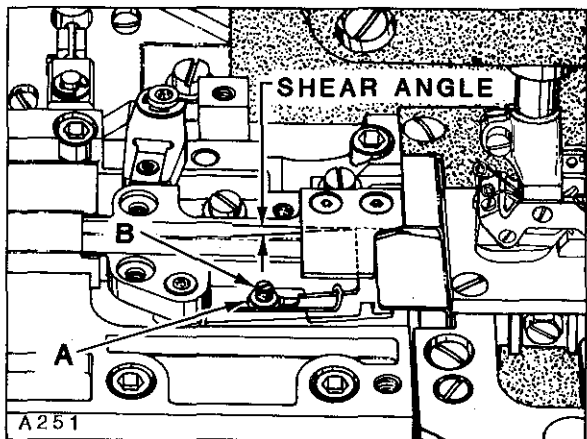

Fig.29
Adjustment of shear angle can be made by loosening nut (A, Fig. 29) and turning screw (B) clockwise (a small amount at a time) while manually operating knife lever (C), continuously checking with a piece of thread to see if knives are cutting. As soon as the knives fail to cut thread and the shear angle is zero, turn screw (B) counterclockwise approximately 1/4 turn and lock with nut (A). Check cutting action of knives when air motor is operating.